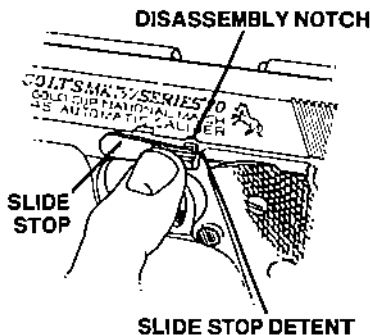

**FIGURE 9—
6. Pull slide to rear until lug on slide stop is opposite disassembly notch (See Figure 9) and push rounded end of pin of slide stop (on right of receiver) inward and through receiver to disengage slide stop from slide.
7. Lift out slide stop (See Figure 9).